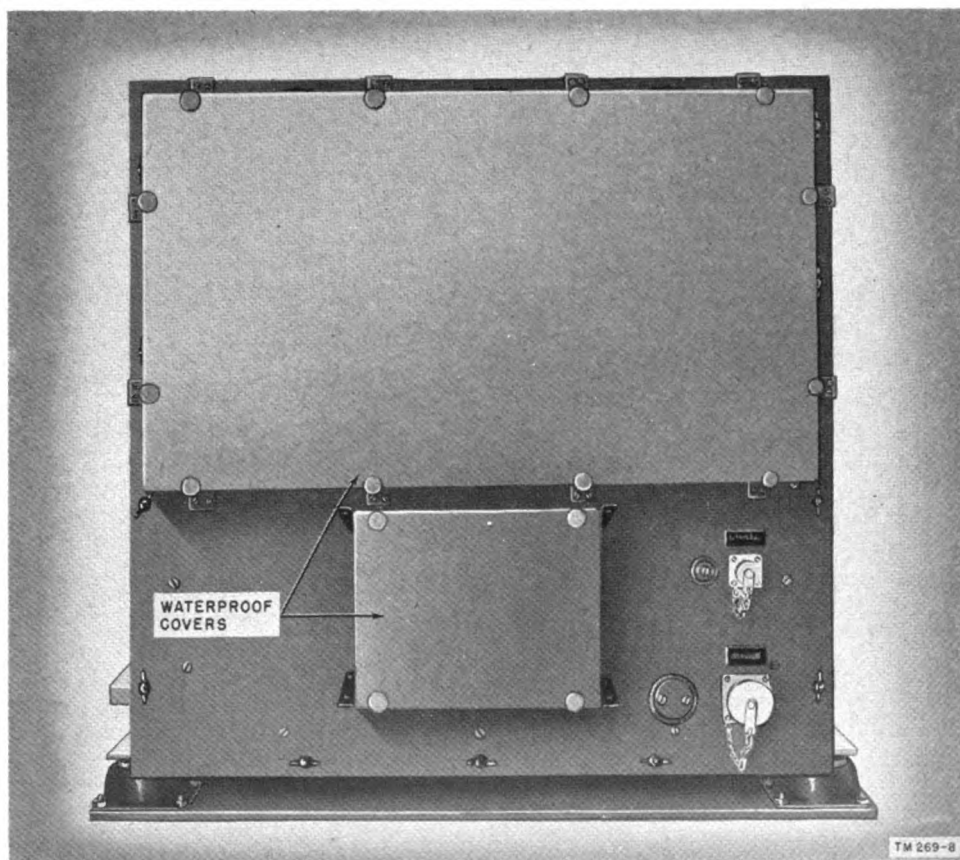

Figure 6. Transmitter, waterproof covers in place.
- (1) The transmitter is housed in a waterproof metal cabinet which includes waterproof covers over the transmitter controls and control box (fig. 6).
- (1) Remove the waterproof cover from the front panel of the transmitter (fig. 6) by loosening the knurled screws which hold the cover in place.